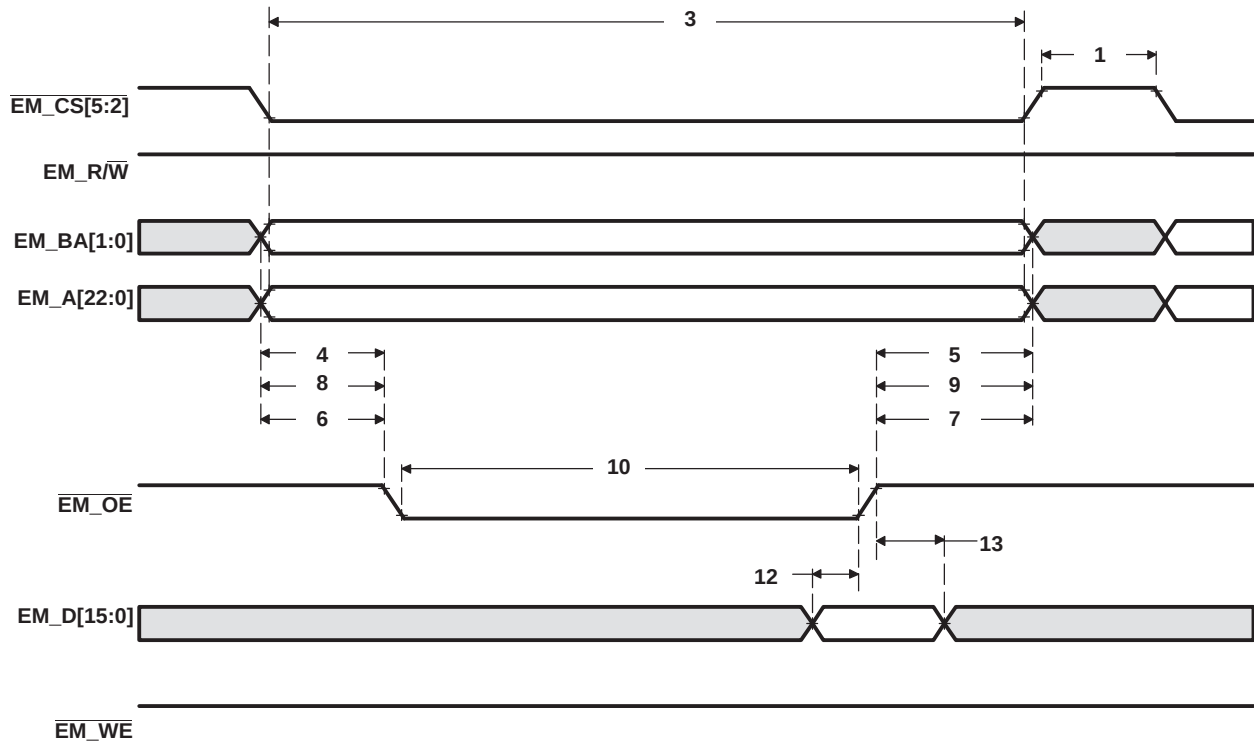
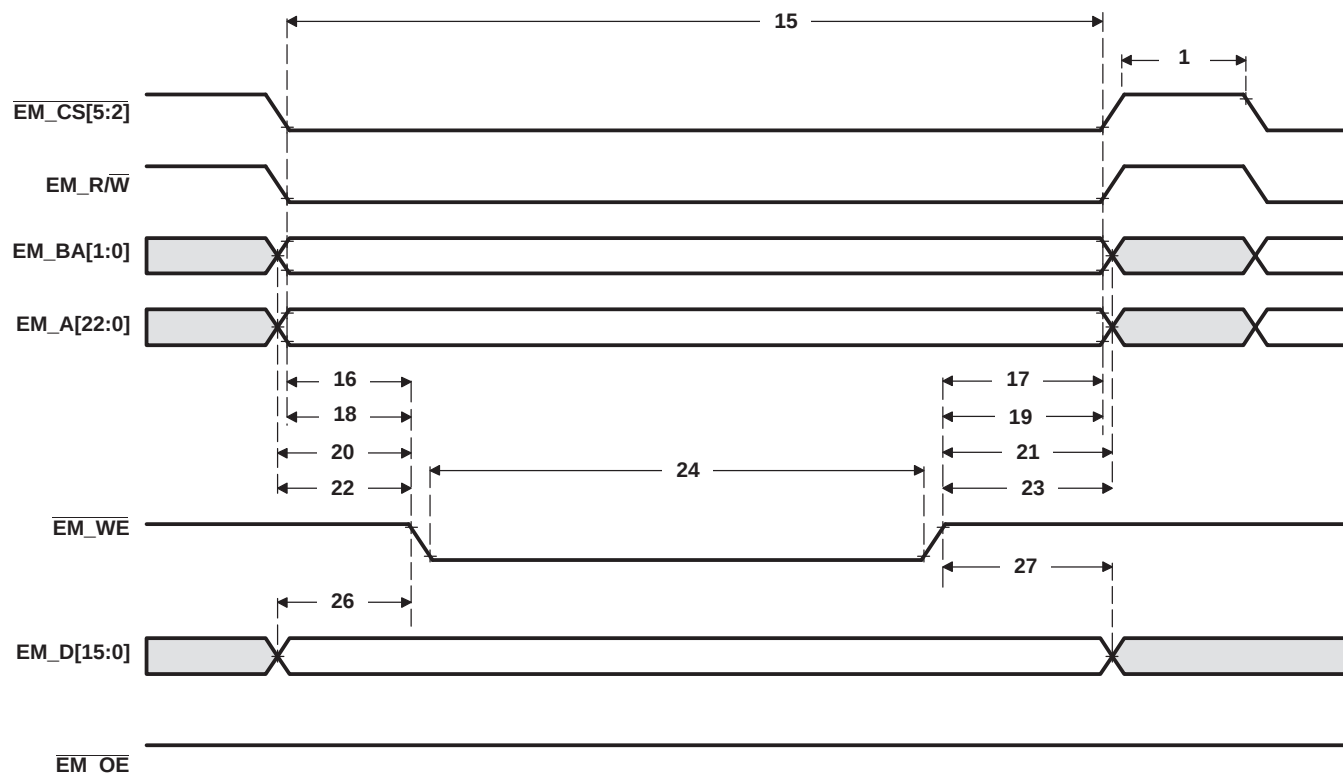

Figure 7-21. Asynchronous Memory Read Timing for EMIF
Figure 7-22. Asynchronous Memory Write Timing for EMIF
(see Figure 7-21 and Figure 7-22)
Table 7-29. Switching Characteristics Over Recommended Operating Conditions for Asynchronous Memory Cycles for EMIFA Module^{(1) (2)} (see Figure 7-21 and Figure 7-22)
- (1) RS = Read setup, RST = Read Strobe, RH = Read Hold, WS = Write Setup, WST = Write Strobe, WH = Write Hold, TA = Turn Around, EW = Extend Wait mode, SS = Select Strobe mode. These parameters are programmed via the Asynchronous n Configuration and the Asynchronous Wait Cycle Configuration registers and support the following range of values: TA[0–3], RS[0–15], RST[0–63], RH[0–7], WS[0–15], WST[0–63], WH[0–7], EW[0–1], and MEWC[0–255]. For more information, see the *TMS320DM646x DMSoC Asynchronous External Memory Interface (EMIF) User's Guide* (literature number SPRUEQ7).
- (2) E = SYSCLK3 period in ns for EMIFA. For example, when running the DSP CPU at 1 GHz, use E = 4 ns.
Table 7-29. Switching Characteristics Over Recommended Operating Conditions for Asynchronous Memory Cycles for EMIFA Module^{(1) (2)} (see Figure 7-21 and Figure 7-22) (continued)